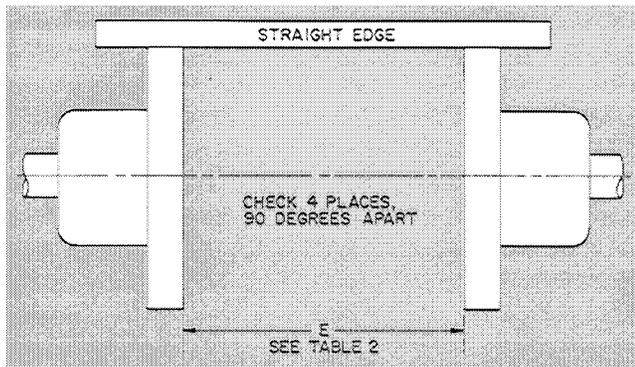

Fig. 4 — Preliminary Adjustment
**See Fig. 4.
Axial Adjustment (Dimension “E,” Fig. 4) — Set the motor shaft in running position as explained under Preparation, Step 4.
Adjust the motor position as required until the distance between the flange faces (Dimension “E” in Table 2) is correct when measured at 4 points, 90 degrees apart (Fig. 4). When establishing Dimension “E”, check the alignment of the flanges with a straight edge as shown in Fig. 4. *This is a preliminary check only. All final alignment must be by dial indicator.* Tighten the motor holddown bolts before proceeding further (securely, but not to specified torque as motor position will be adjusted in the alignment procedure). Final torquing will be done when alignment is complete.